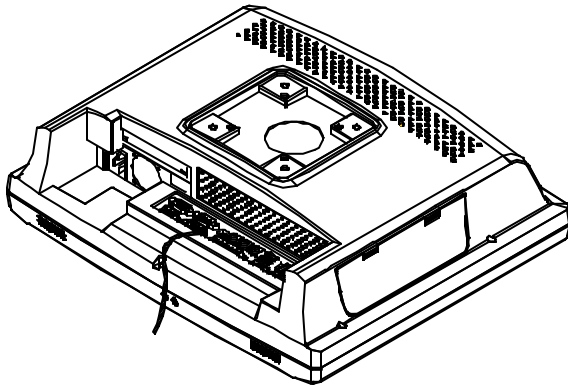

Figure 2-7: Connecting the COM ports (COM 1, 2, 3)
1. Screw the protective Earth Conductor (Yellow and green wire) on the nut beside the COM D-Sub connector. (See Fig 2-7)